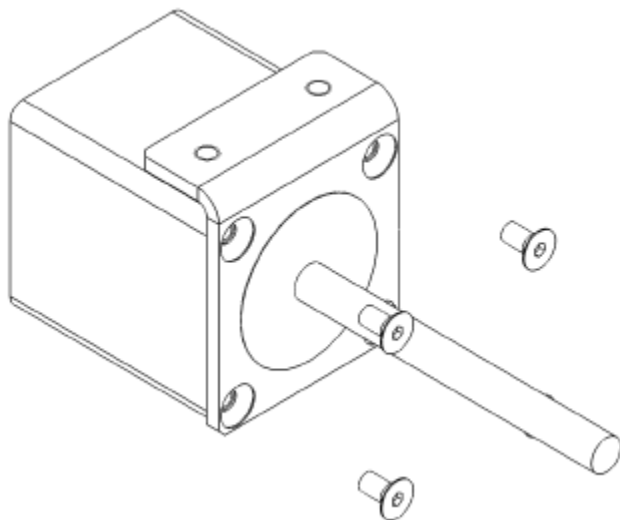

Figure AA-16: WZD Motor and Bracket
5. Remove the washer Z actuator from the WZD Motor bracket by removing the four screws (Figure AA-16).